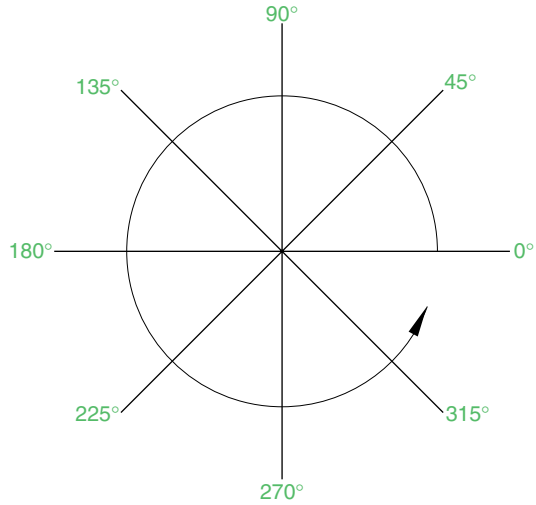

Fig. 2.8 The counter-clockwise direction of measuring angles in AutoCAD
5. The next example (the fourth) shows how lines at angles can be drawn taking advantage of the relative coordinate entry method. Angles in AutoCAD are measured in 360 degrees in a counter-clockwise (anti-clockwise) direction (Fig. 2.8). The < symbol precedes the angle.